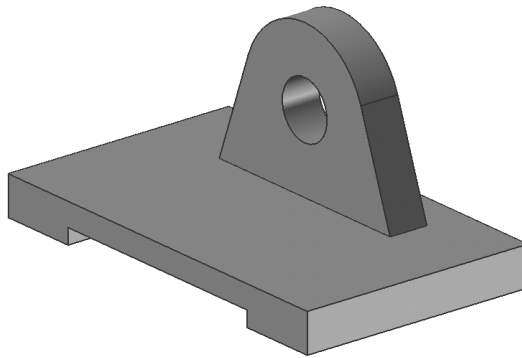

Figure 8-54 The model after creating the cylindrical pocket feature
- g. Create the cylindrical pocket in the rectangular pad feature using the **Pocket** tool, refer to Figure 8-54.
6. Next, select the cylindrical pocket edge from the preview of the pocket and choose the **Arc Center** button from the **Set Arc Position** dialog box. The cylindrical pocket is shown in Figure 8-54.